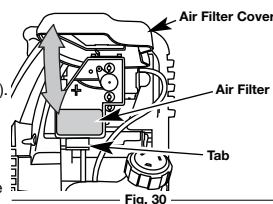

Fig. 30
- Open the air filter cover. Push the tab on the under side of the cover inward. Then pull the air filter cover out and up. (Fig. 30).
- Reinstall the air filter cover. Position the slots on the top of the air filter cover onto the tabs at the top of the back plate (Fig. 30).
- Swing the cover down until the tab on the air filter backplate snaps into place in the slot on the air filter cover (Fig. 30).